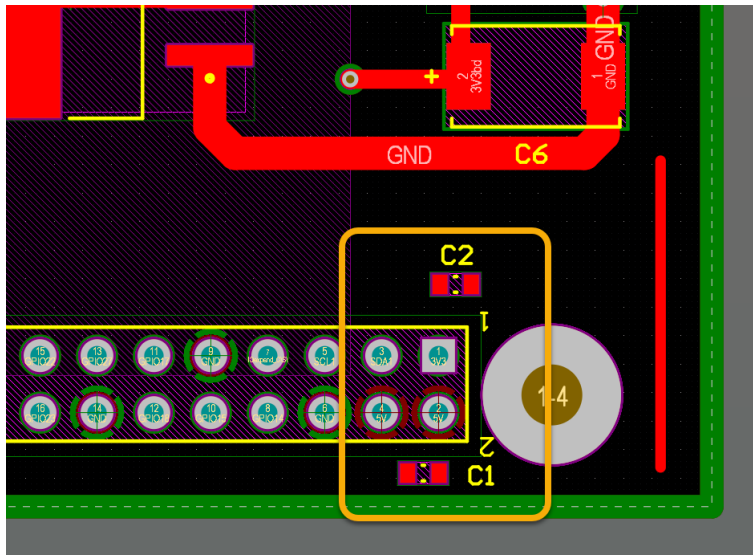

Figure 15. Positioning components C5 and C6 loosely
44. Click to place C1 in the bottom right corner as shown in Figure 15, using the **Spacebar** to rotate.
45. Component C2 should now automatically jump to your cursor. Place it in accordance with Figure 15.